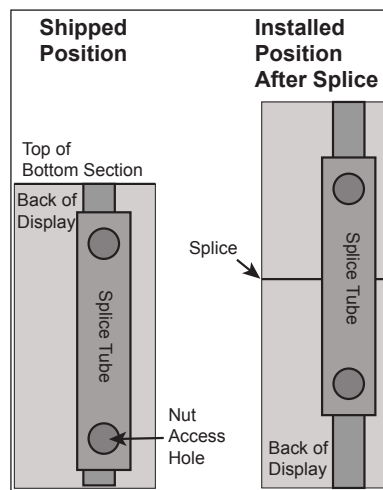

Figure 15: Aligning and Installing the Vertical Splice Tubes
- Loosen the nuts that hold the vertical splice tube in place. Refer to **Figure 15**.